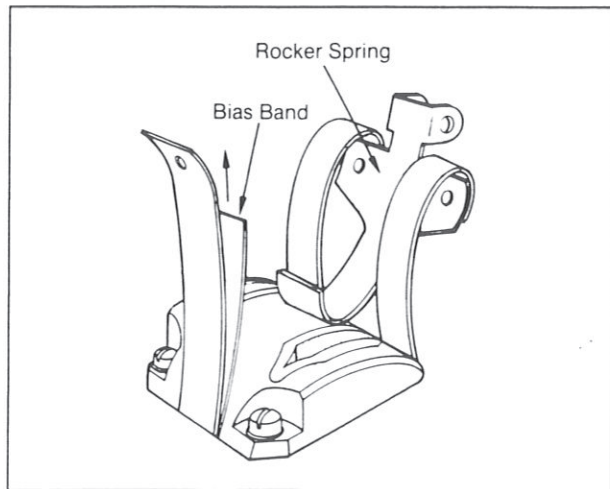

Figure 4
6. The bias band may now be removed (reference Figure 4).